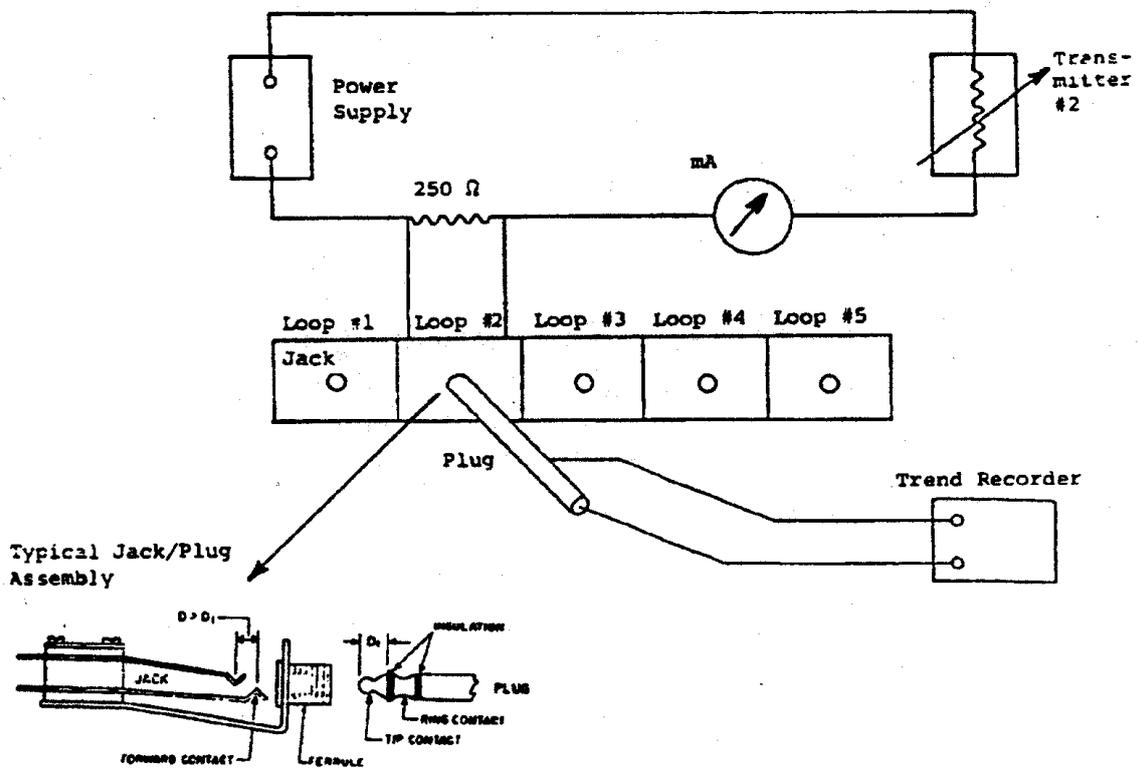

Figure 5. A Representative Trend Recorder Installation
- The jack will be wired across this dropping resistor so that the recorder will respond to that loop signal when the lead connector is plugged in (Figure 5).